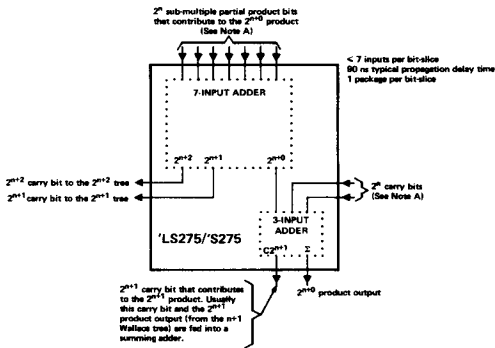
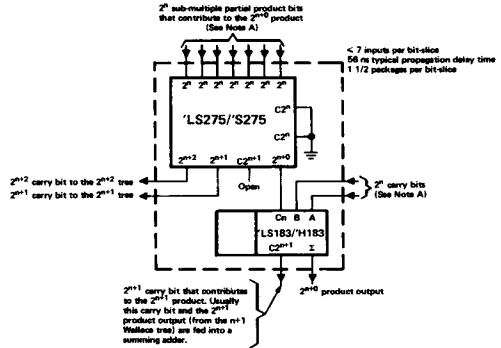

FIGURE 1—BASIC BIT-SLICE WALLACE TREE
FIGURE 2—HIGH-SPEED BIT-SLICE WALLACE TREE
*Each starred block may be either a basic bit-slice Wallace tree ('LS275 or 'S275 only) or a high-speed bit-slice Wallace tree ('LS275 plus 1/2 'LS183 or 'S275 plus 1/2 'H183). In either case the function of the terminal is the same as the similarly located terminal of the basic bit-slice (Figure 1) or high-speed bit-slice Wallace tree (Figure 2). Also for either tree, when only five inputs of the seven-input adder of the 'LS275/'S275 are used, the remaining two inputs must be grounded. When the high-speed adder is used, the C²⁰ inputs of the 'LS275/'S275 must be grounded.